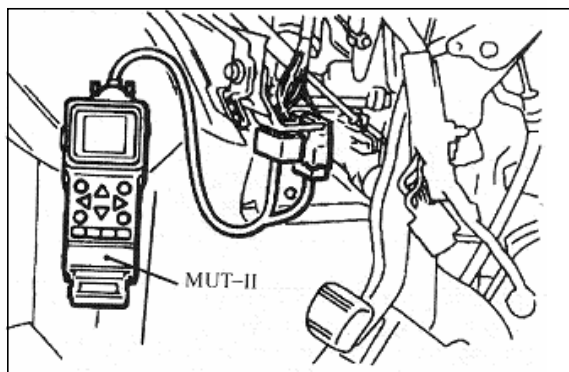

Fig.20-4
1) Method of reading diagnosis codes .(See fig.20-4)